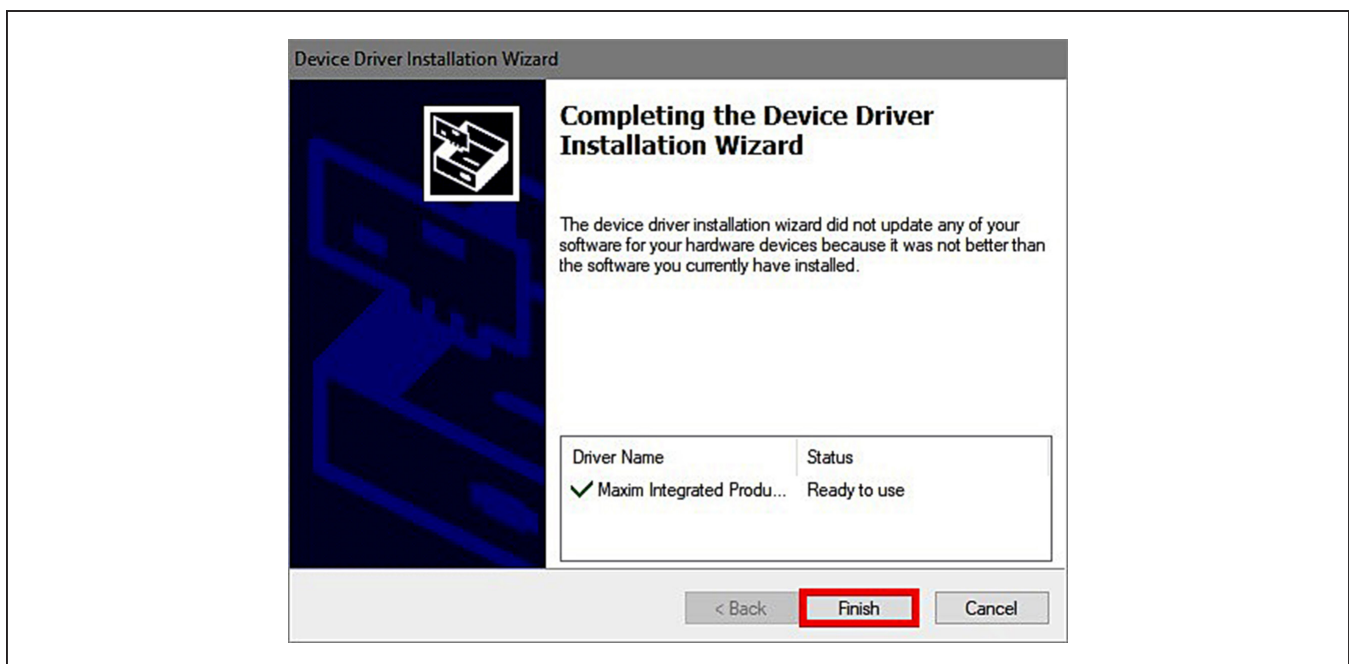

Figure 8. Device Driver Installed Finished
- 9) Click on **Finish** (Figure 8) to close the final window confirming the driver was installed correctly.